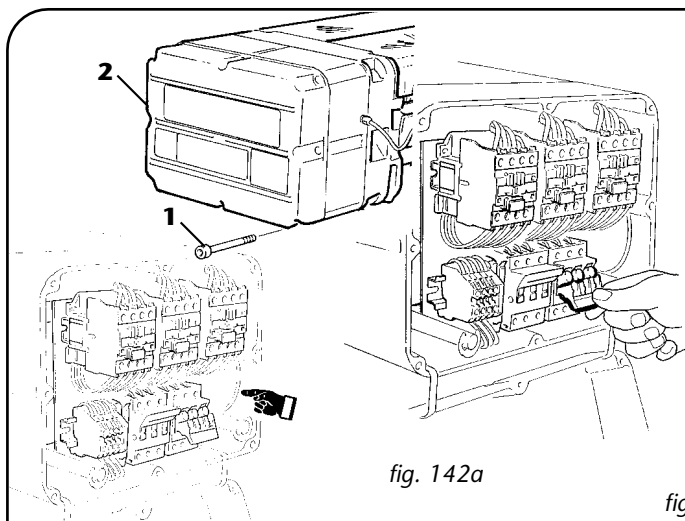
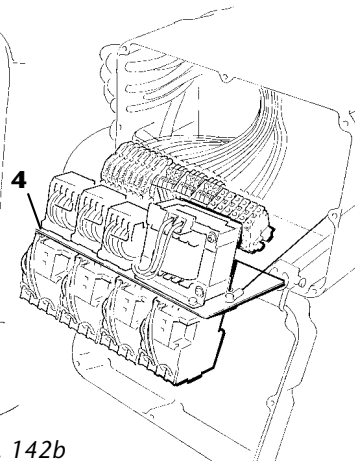

fig. 142a
fig. 142b
- To carry out the internal check of the control apparatus, remove the screws -1- from the cover -2- Disactivate the motor fuses (fig. 142A). Remove the screws -3- which fix the panel -4- and take off the panel itself to allow access to the contactors located on the back (fig. 142B)